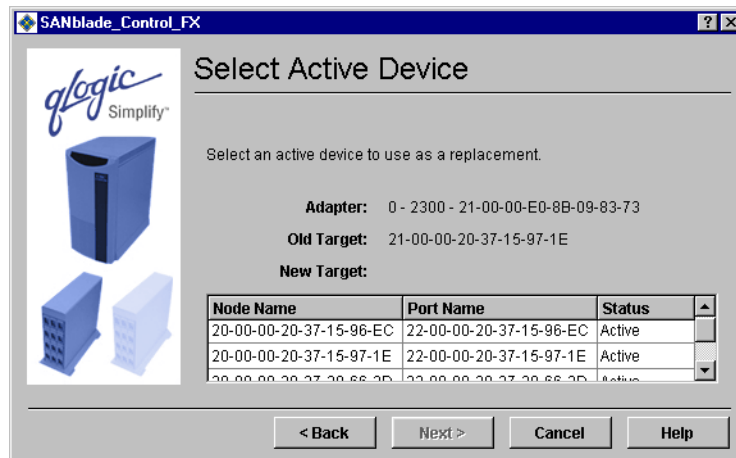

Figure 14-26. Select Active Device Dialog Box
6. If you clicked **Next**, the **Select Active Device** dialog box displays (see figure 14-26).